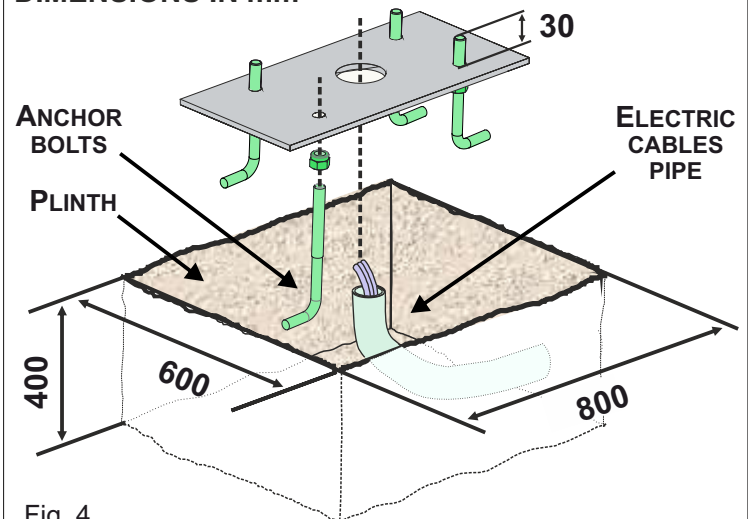

Fig. 4
2.1. Prepare a concrete slab according to the dimensions shown in Fig. 4;